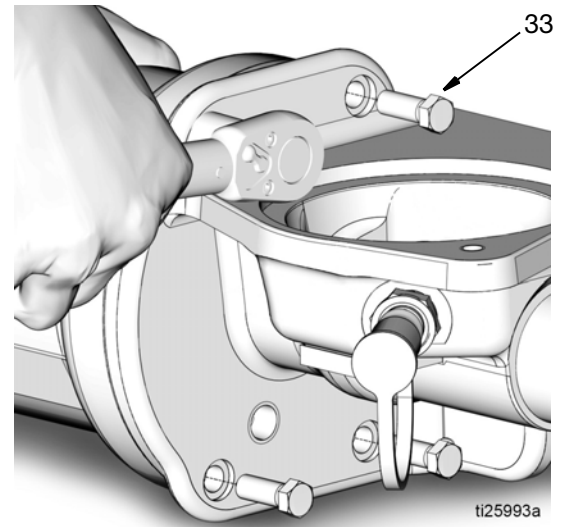

FIG. 52
- c. Install 4 new bolts (33). Hand tighten the bolts evenly, each one a little at a time in a diagonal pattern. Then torque diagonally to 10-13 ft. lbs. (13.5-17.6 N•m). See FIG. 52.